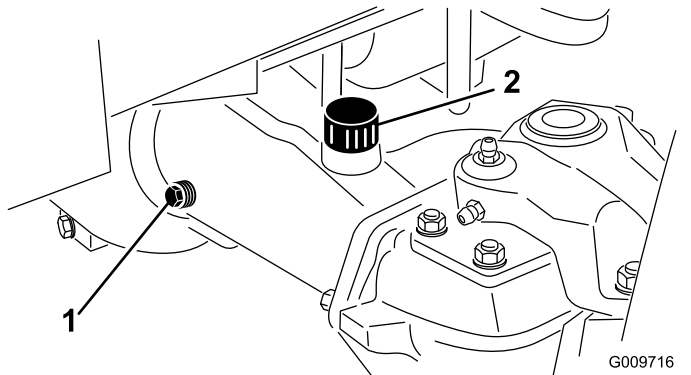

Figure 96
2. Remove a check plug from 1 end of the axle (Figure 96) and make sure that the oil is up to the bottom of the hole. If the level is low, remove the fill plug (Figure 96) and add enough oil to bring the level up to the bottom of the check-plug holes.